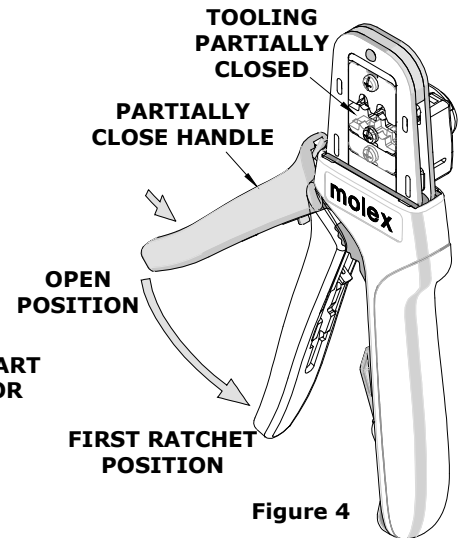

Figure 4
- Close the tool handle until the first ratchet position engages. See Figure 4.